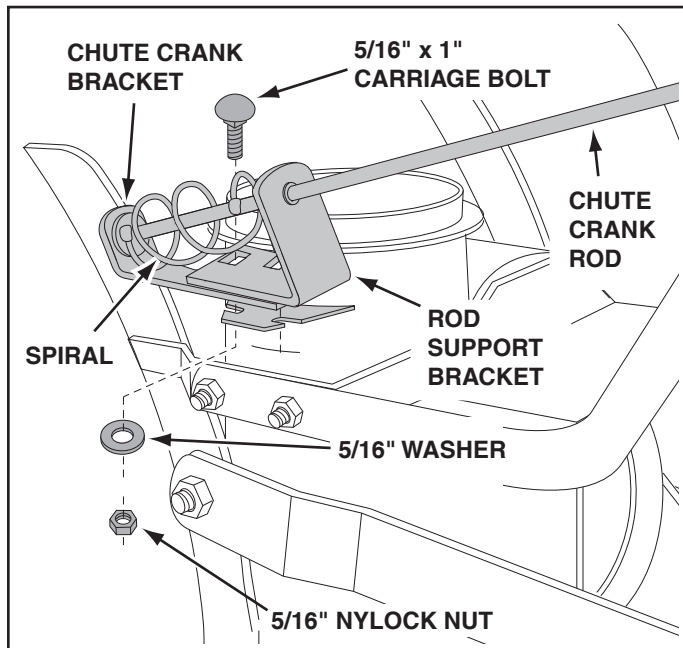

FIGURE 51
STEP 52: (SEE FIGURE 51)
- Position the crank rod spiral (see figure 51) so that it does not rub against the bottoms of the notches in the chute flange. **Tighten** the nuts.